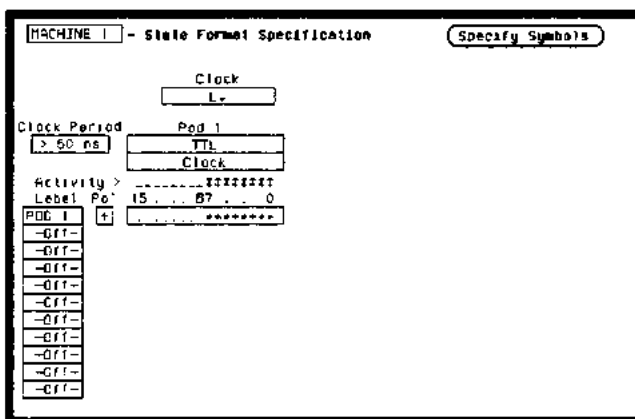

Figure 3-6. Format Specification for Data Test 1
4. In the **State Format Specification** assign the **Clock Period** to **> 60 ns**. Also assign the lower 8 channels of the pod under test to a label as shown in figure 3-6. If you are testing the HP 1652B, assign the falling edge of the L clock for all pods. If you are testing the HP 1653B, assign the falling edge of the J clock for all pods. Refer to steps a through c if you are unfamiliar with the menus.